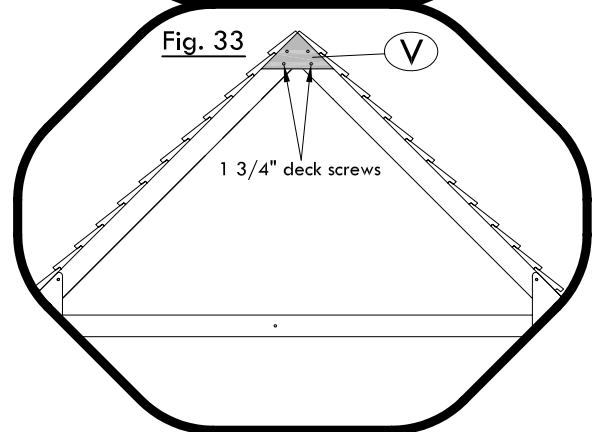

Fig. 33
Pivot both Roof Halves to center and fasten Mending Plate 'V' to Roof Trusses 'G' with (4) 1 3/4" deck screws as shown. (see Fig. 33)